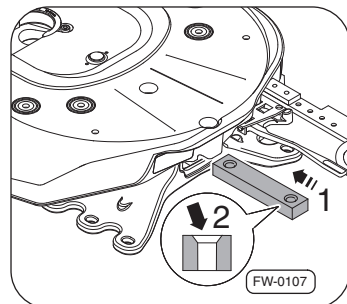

Fig. 26 · Insert clamps
2. Fit tensioning bars Fig. 26, –arrow 1– in sideways on both sides, at the same time ensuring the correct position of the chamfer on the thread –arrow 2– (chamfer points upwards).